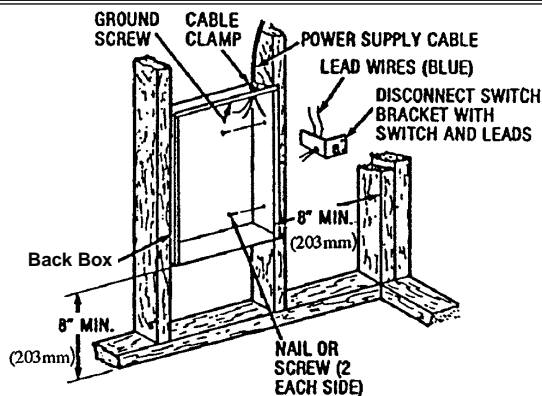

Fig. 1: Locating Recessed Back Box in New Construction
1. Mounting Back Box (See Figure 1)
- c. Secure the back box in position with wood screws or nails as shown in Figure 1.
2. Power Supply Wiring (See Figure 1)